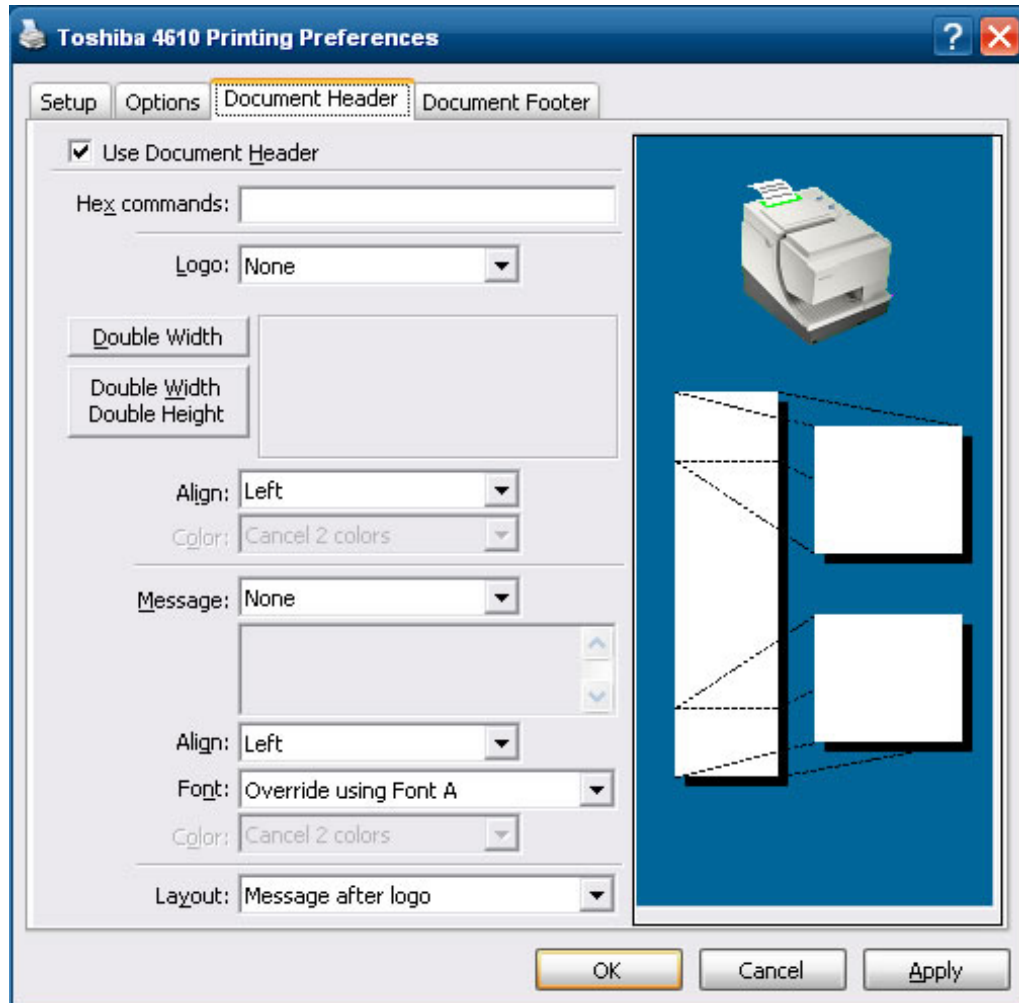

Figure 45. Document Header tab
4. Click the **Document Header** tab (see Figure 45).